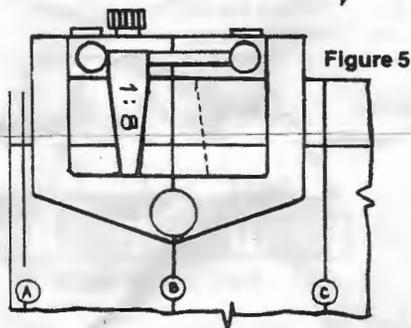

Figure 5
5) Place the Dovetail gauge centre line on line B (Figure 5). Lock the adjustable steel stops to either side of line B to allow the brass blade to move across the full pin socket width.